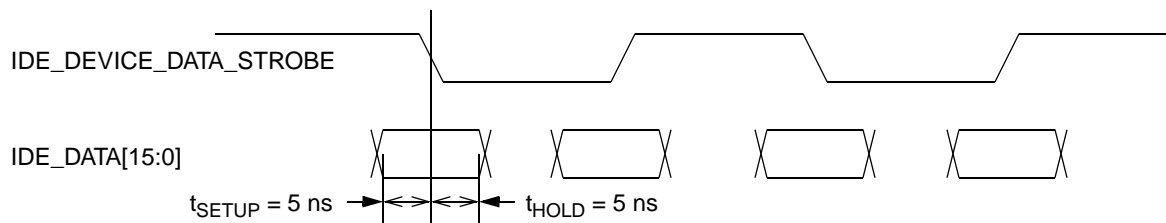

Figure 7-7. IDE UltraDMA Data In Timing
- Note 3. These signals use *Input Reference Timing* (see Figure 7-4 on page 551). Figure 7-7 illustrates their relationship and specified setup and hold times.